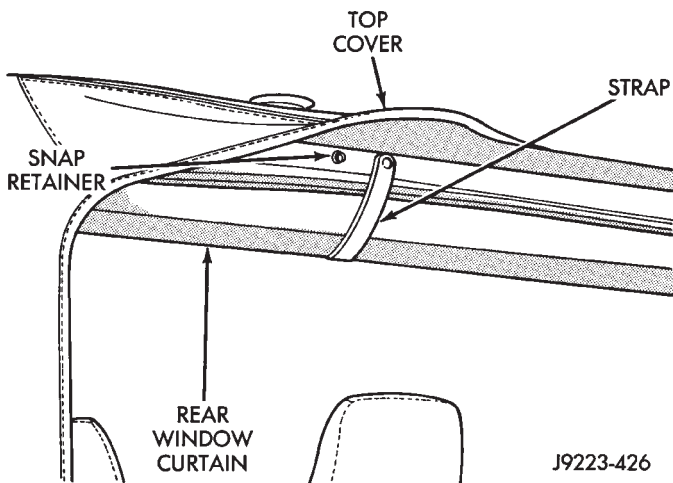

Fig. 107 Rear Curtain Upper and Side Zippers
(10) Roll up the rear curtain and attach it to the top cover with the elastic straps and snap-on retainers (Fig. 107).